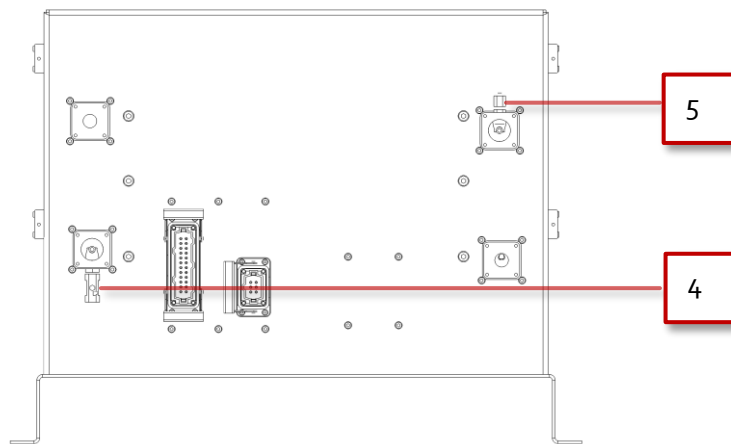

Figure 63 Open the drain and bleed valves
4. Place a water container under the drain valve and open the drain valve gently to release the water pressure, see Figure 63.
5. Open the bleed valve at the top of the generator, see Figure 63. The generator contains about 3 liters.